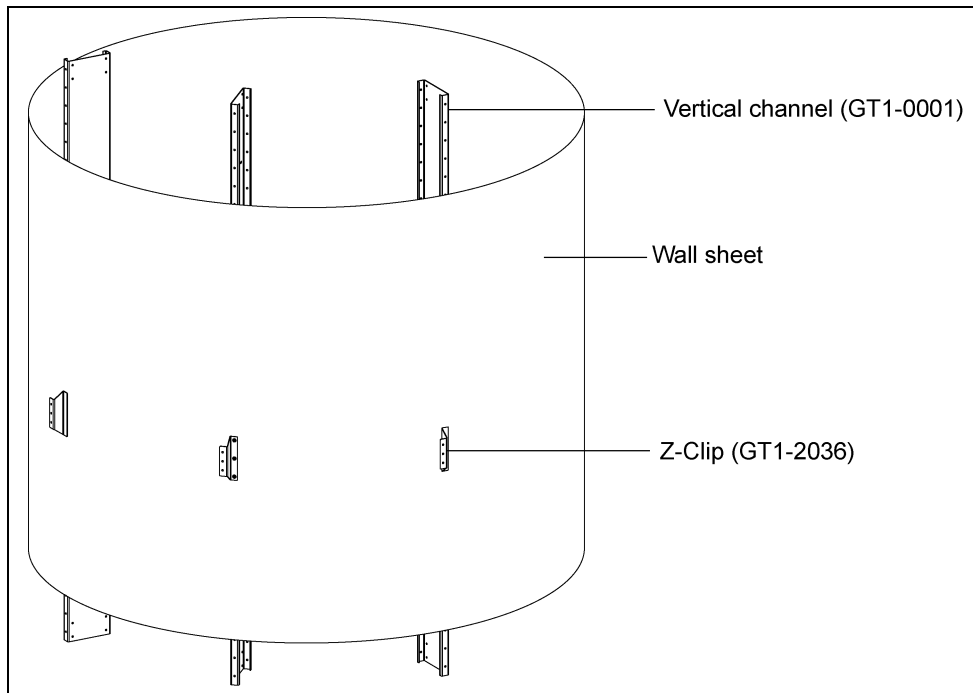
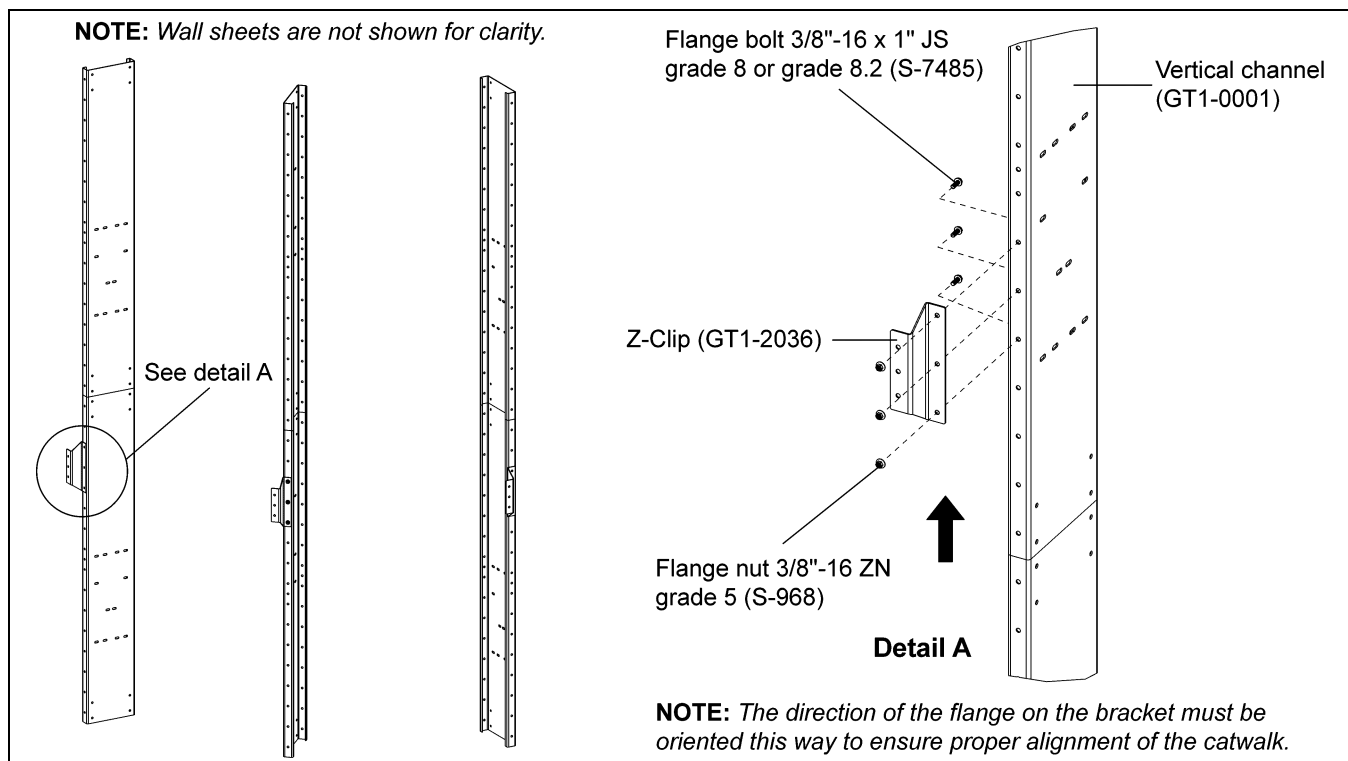
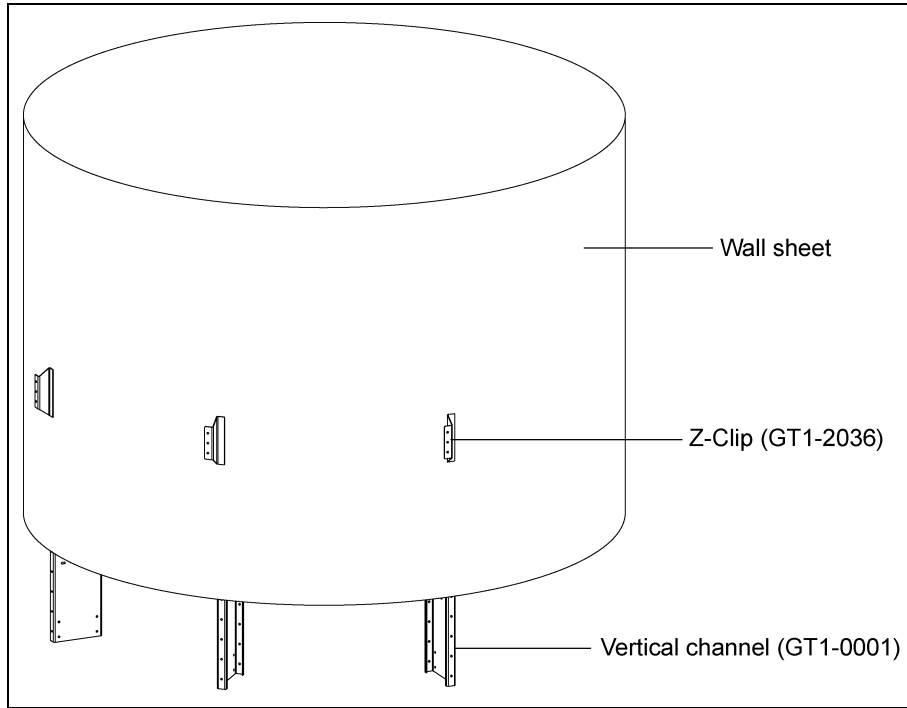
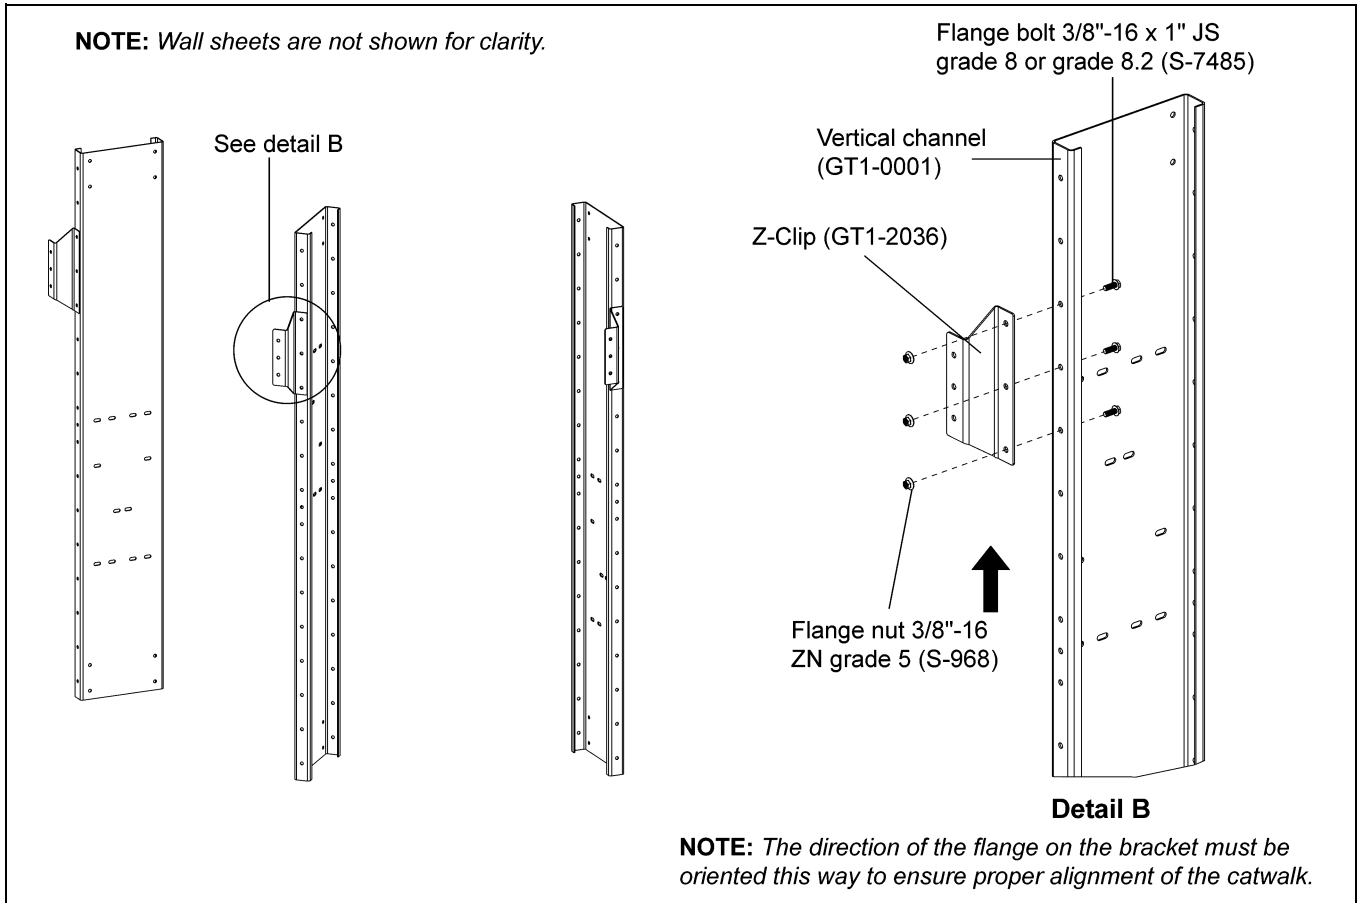

Figure 6A Offset Z-Clip Installation
Figure 6B Offset Z-Clip Installation
Figure 6C Roof Hatch Z-Clip Installation
Figure 6D Roof Hatch Z-Clip Installation
1. Bolt Z-clips (GT1-2036) to vertical channels (GT1-0001). The Z-clip can be installed on each vertical channel as wall sheets are installed using 3/8"-16 x 1" JS grade 8 or grade 8.2 bolts (S-7485) and 3/8"-16 ZN grade 5 nuts (S-968). (See Figure 6A, Figure 6B below, Figure 6C and Figure 6D on Page 45.)